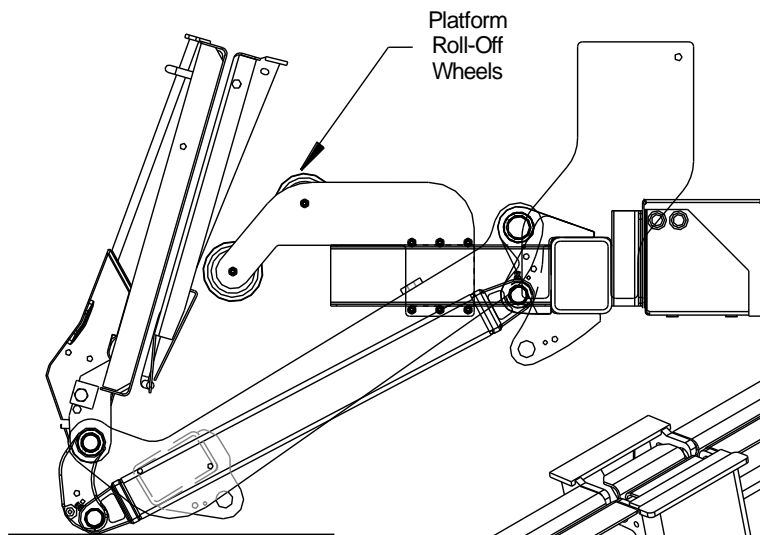
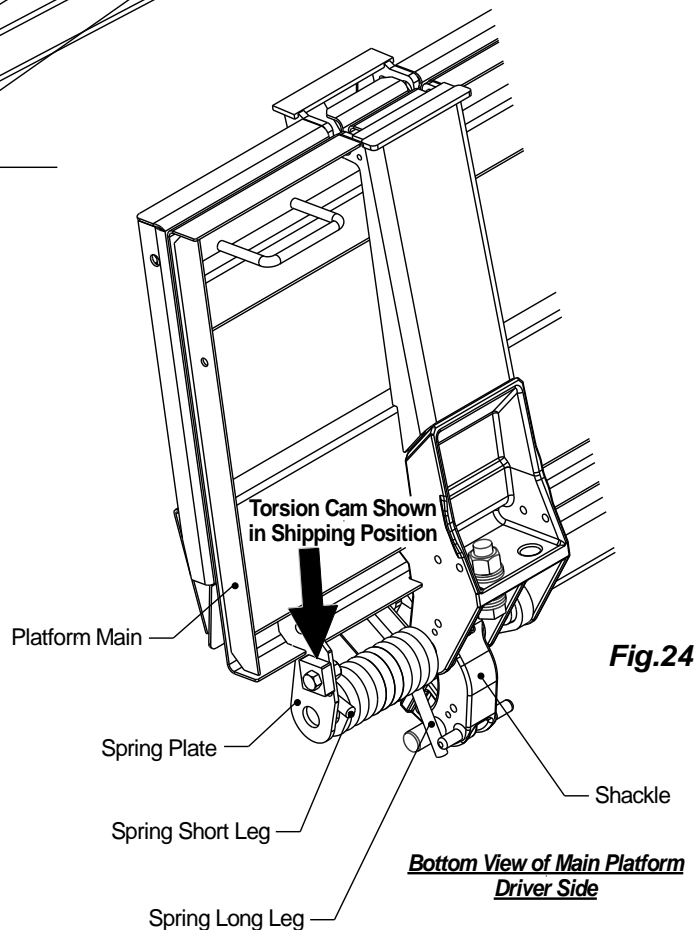

Fig.23
Fig.24
1. Torsion Cam Installation: To change the amount of platform spring assist, position the gate as shown below with the platform resting on the platform roll-off wheels and shackles contact the ground, **Fig.23**. The adjustment cam is installed with no tension when shipped, **Fig.24**. Verify that the platform has a curb and driver side cam.